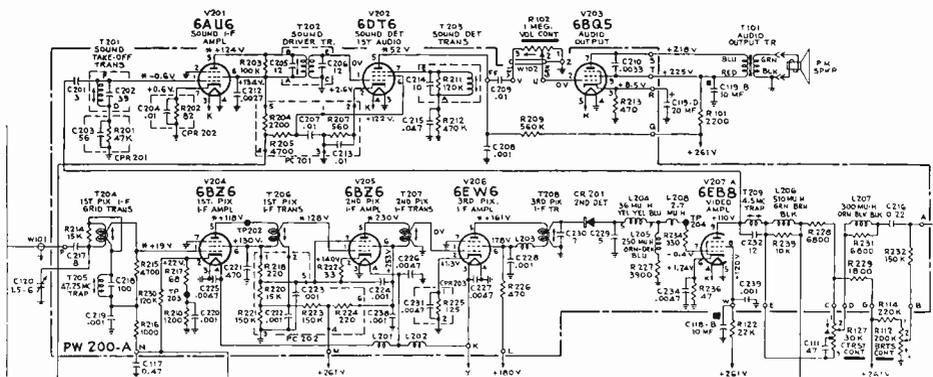

Fig. 2 (B) The schematic diagram for that portion of the circuit in 2A.
Fig. 2 (A) The etched wiring on the reverse side of the circuit is duplicated in the white printing on the part side, thus enabling you to see everything at once.
Fig 2 (C) Phantom view showing the printed wiring superimposed on the part layout. Locating points easily identified here and on the schematic are, in this case, the tube socket terminals.